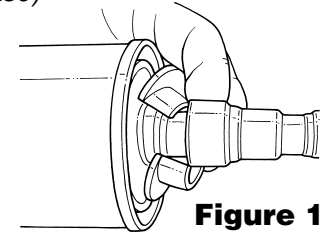

Figure 1
1. Twist one end of the tool, and completely insert it into the fuel filter line connector. See Figure 1.